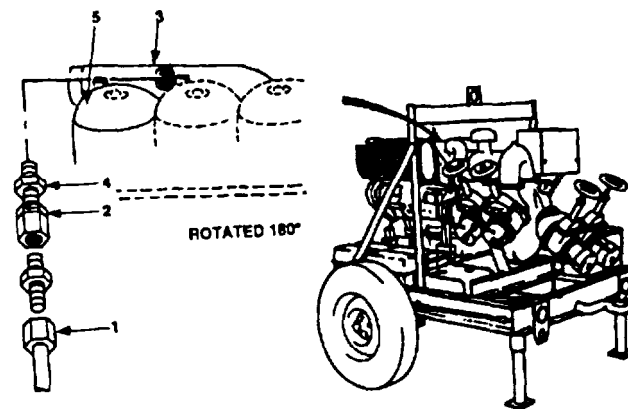

Figure 4-7. Starting Aid Nozzle Maintenance (Models 350 PAW and W-87012).
- a. Disconnect hose (1, figure 4-7) from nozzle (2).
- b. Remove nozzle (2) from intake manifold (3).
- b. Thread jam nut (4) three quarters of the way on the nozzle (2).
- c. Thread nozzle (2) into intake manifold (3) approximately half way.
- d. Continue to thread until arrow on nozzle points towards number 1 cylinders (5).
- e. Tighten jam nut (4) to secure nozzle (2) and connect hose (1).